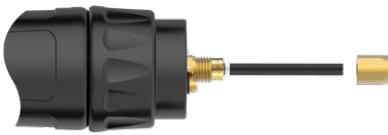

Figure 3
- Reposition and tighten the liner retaining nut (Figure 3).